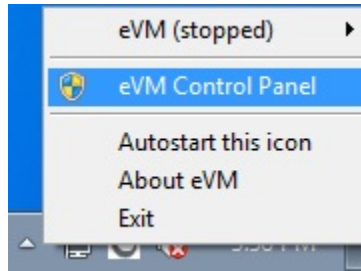

Figure 4.16 - Launching the eVM Control Panel from the system tray
15. Click on the **eVM tray icon** and select **eVM Control Panel** to launch the eVM Control Panel, see Figure 4.16.